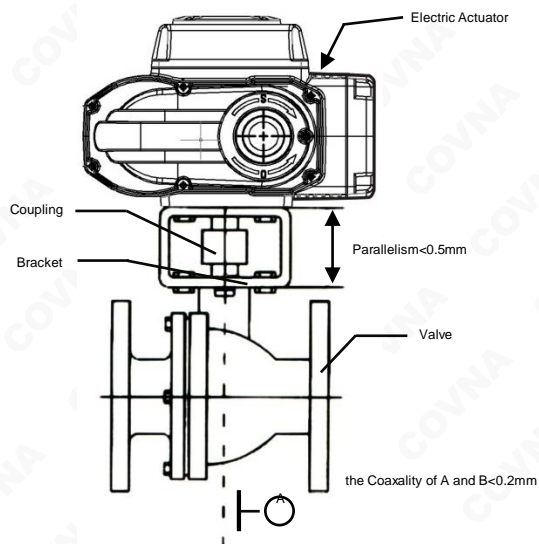

Figure 3
■ Installed on the valve body (Figure 3)